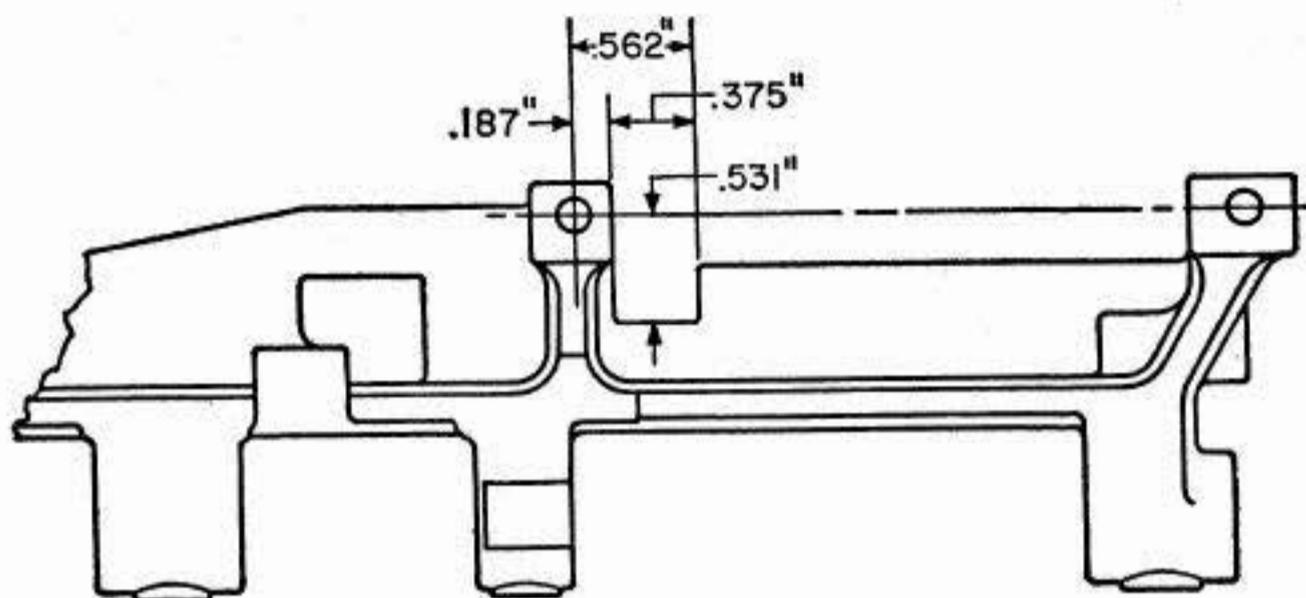

Fig. 1
2.02 When the mechanism is to be installed on a typing unit ↗ having a webbed printing bail casting, the casting must be worked over as shown in Fig. 1. If desired, a modified printing bail, TP92786, may be ordered separately. ↘